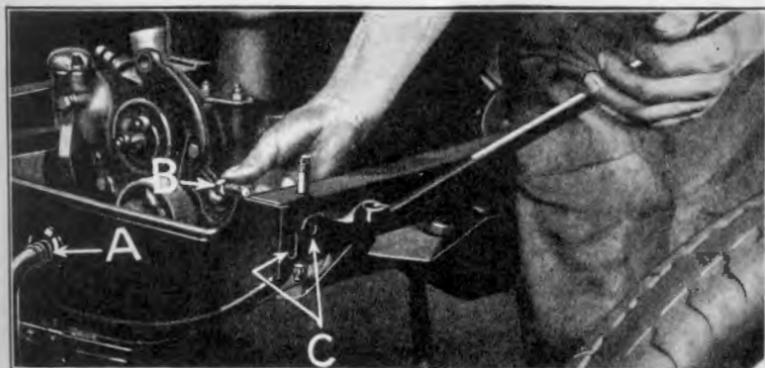

Fig. 90
- 109 **Install radiator apron** by slipping apron over starting crank handle (See "A" Fig. 90).